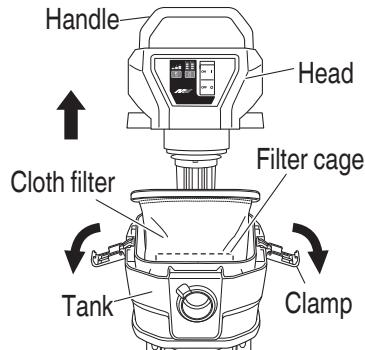

Fig. 12
- (1) Detach two clamps, pull up the head by the handle and remove it from the tank. (see Fig. 12)
(see Fig. 12)
- (1) Detach two clamps, pull up the head by the handle and remove it from the tank. (see **Fig. 12 on page 46**)
- (2) Lightly striking the inner side of the cloth filter several times, remove dusts attached to the cloth filter.